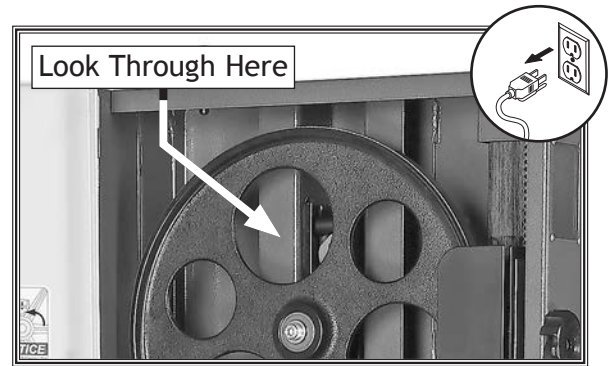

Figure 81. Location of blade tension adjustment assembly.
2. Open upper wheel cover and look through top of wheel (see **Figure 81**).